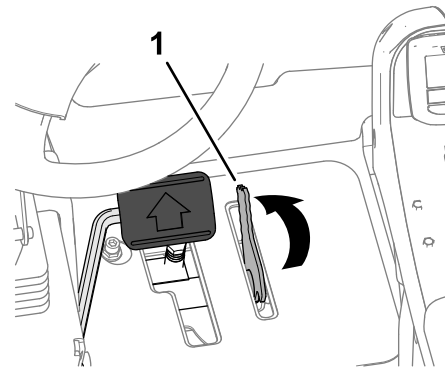

Figure 56
- Use your foot to move the lever for the mow-speed limiter forward, to the **Mow** position (Figure 56).